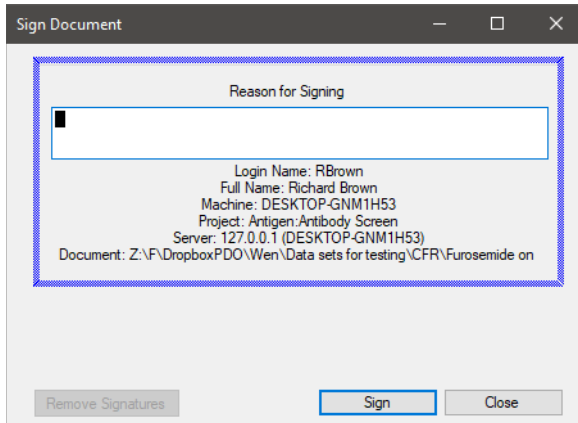

Figure 12-15: Sign Document Dialog Box
1. **First Reviewer** - Click **Signature** in the Experiment section of tab menu. The Sign Document dialog box displays (Figure 12-15).